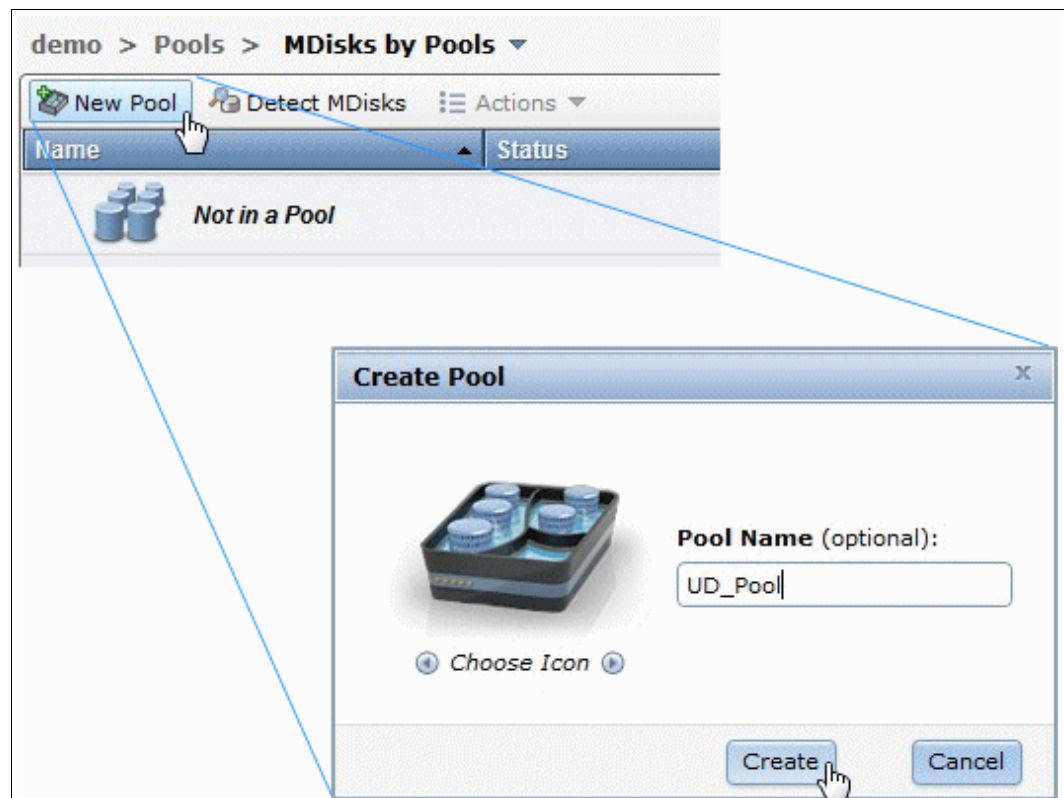

Figure 9-3 Creating pools
2. For each pool, click **New Pool** to create an empty pool. Insert a name for the pool, such as MD_pool or UD_pool. (Figure 9-3). Click **Next** to continue with the pool creation process.